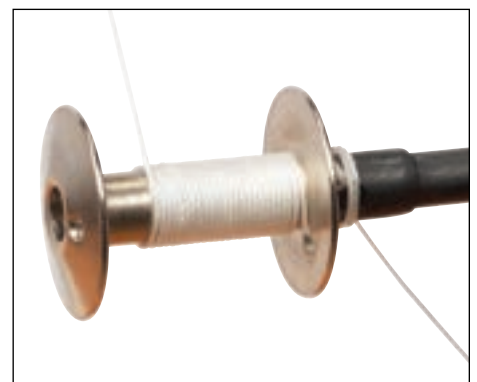

Figure 15
3. With a light tension on the thread, turn the drill over slowly and allow the Bobbin to wind evenly. (Figure 15)